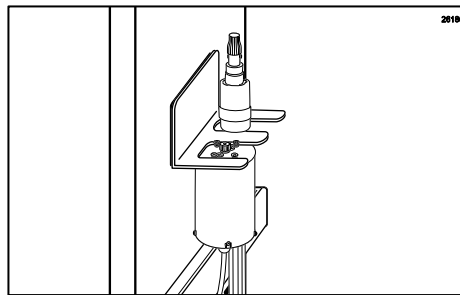

Figure 148
- The Drive Motor hangs upside down in the larger slot, so that the heads of the mounting screws slide above the Bracket, and the rest of the Motor hangs below it. (See Figure 148.)